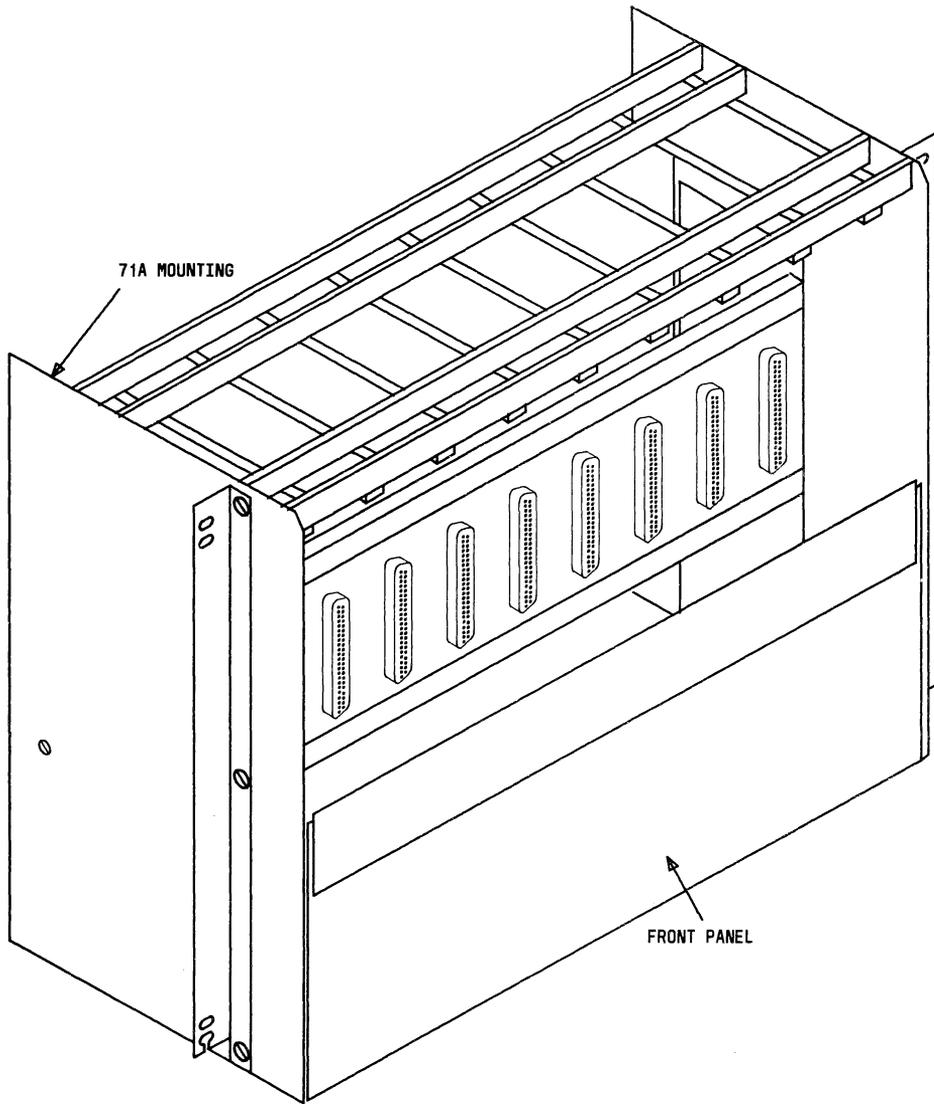
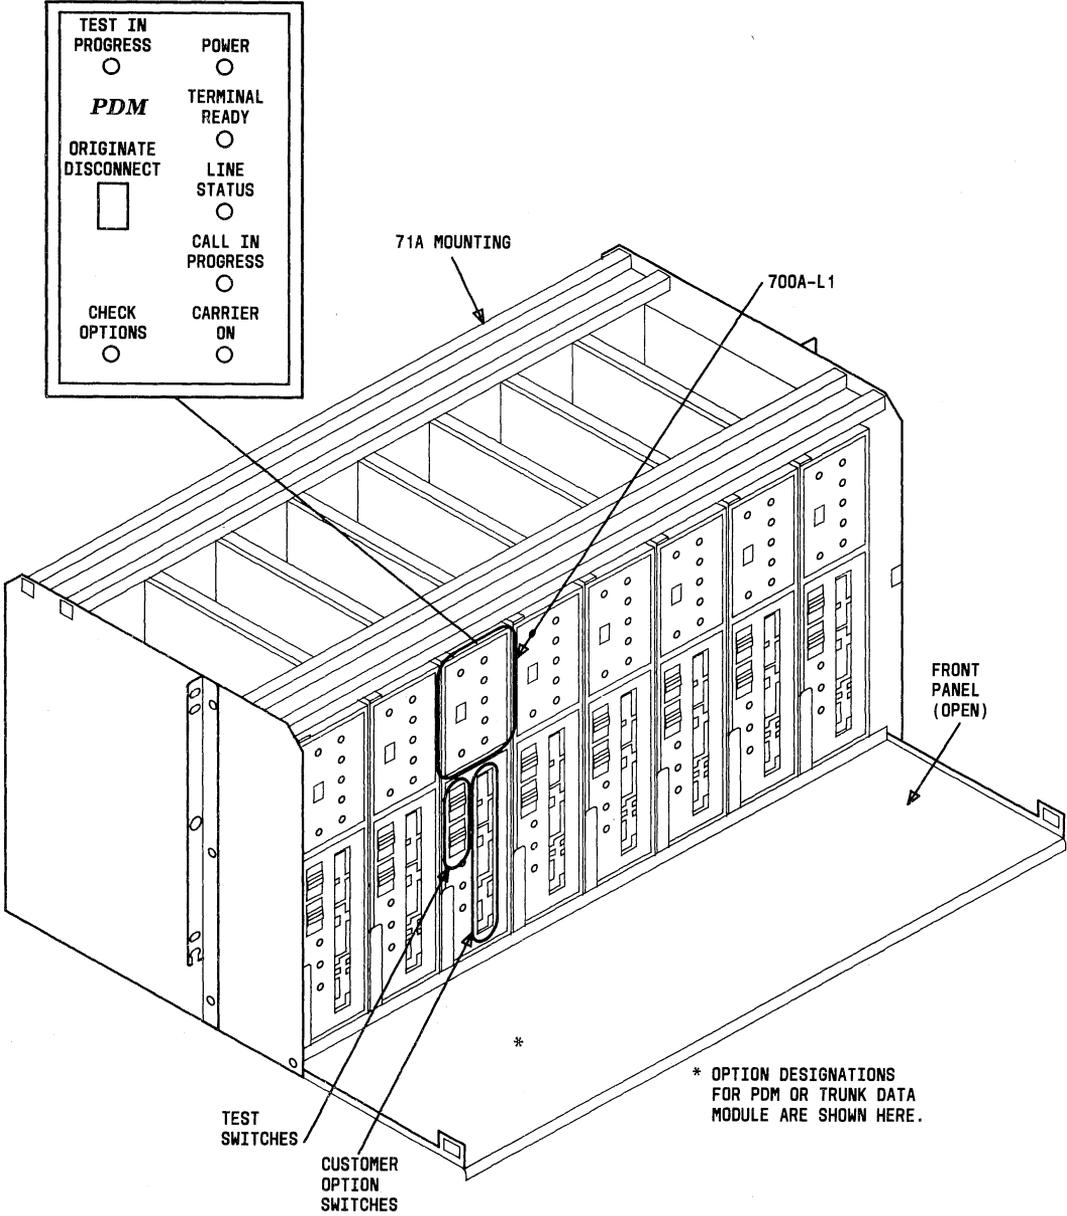

Fig. 6—Front View of 71A Multiple Mounting
Fig. 7—71A Multiple Mounting With PDM Installed
2.15 The multiple mounting consists of a 71A mounting (Fig. 6) which holds up to eight PDM or trunk data modules (Fig. 7) in any order or mix. The 71A multiple mounting measures 19 or 23 inches wide, 8.7 inches high, 14.9 inches deep, and weighs 22 pounds without any modules installed and